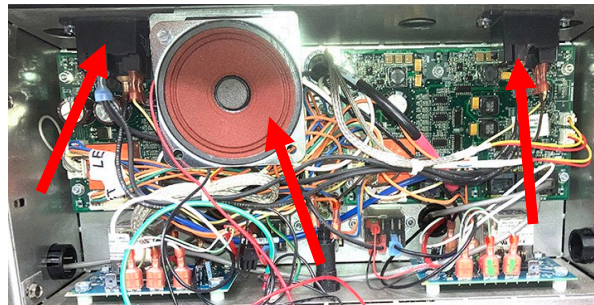

Figure 14
13. The speaker bracket and relay(s) will need to be relocated to allow room for the cooling shroud (see Figure 14).